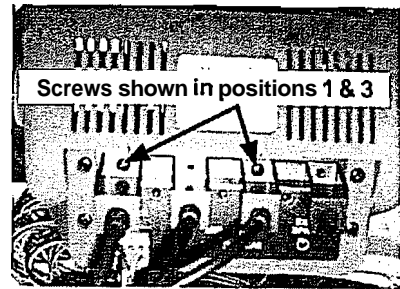

Figure 2 Back of monitor & Cable Clamp
5. Locate rear clamp securing remote camera cables (Figure 2).